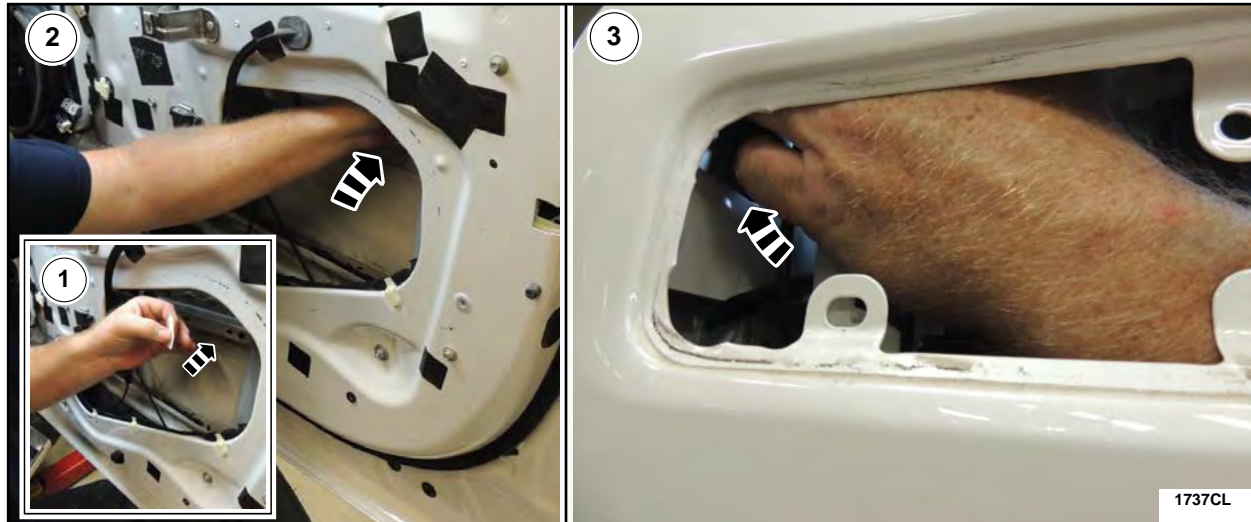
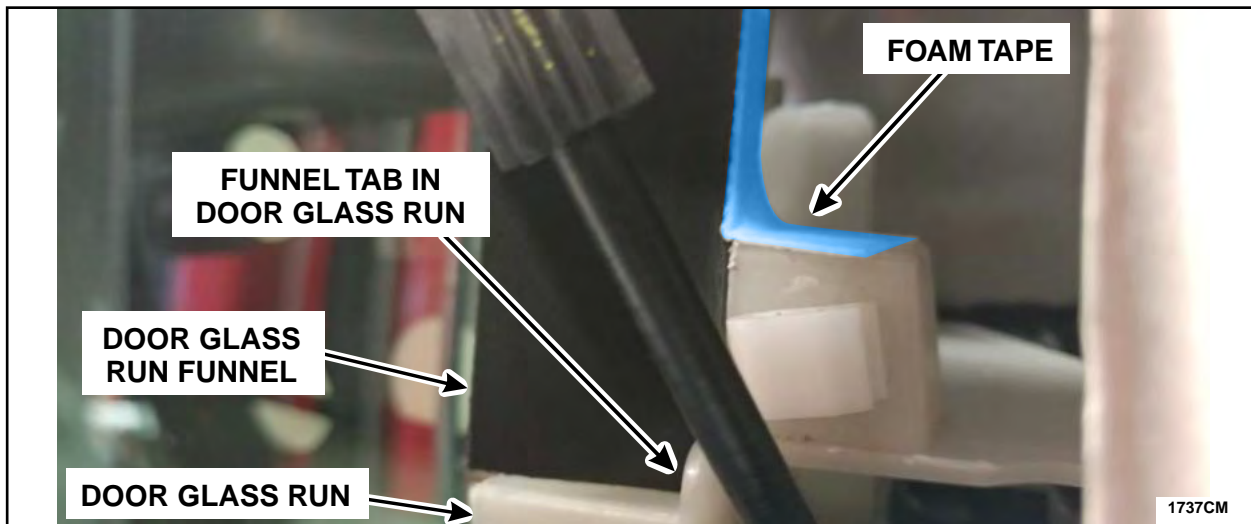

FIGURE 25
FIGURE 26
15. Using your hand install the Foam Tape on the top of the door glass run and on the back of the door glass run funnel in the order shown in Figure 25. Figure 26 shows the Foam Tape installed.